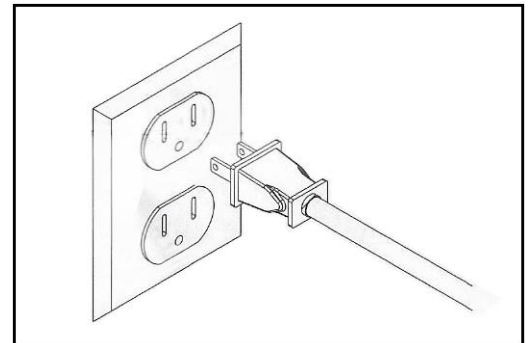

Fig.3
3. Plug the transformer into a properly grounded electrical outlet. Fig. 3